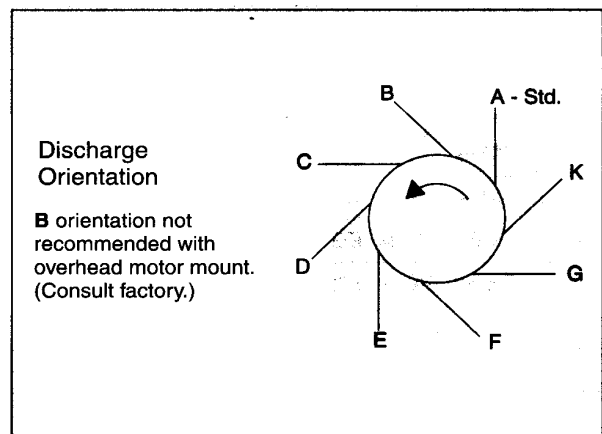

Figure 4-2 • Discharge Orientation Options When Facing Suction Side
1. Fit FRAME PLATE Adapter (380) used on most XU Pumps prior to fitting frame plate to base, making certain that the frame plate shoulder has engaged with the corresponding BASE RECESS. Except for a few smaller sizes, all pumps have provisions for locating the discharge at 45° increments from true vertical. (Refer to Figure 4-2.) Due to their size, the SHP/450TU and SHP/350TU pumps allow only the "C" and "G" discharge orientation.